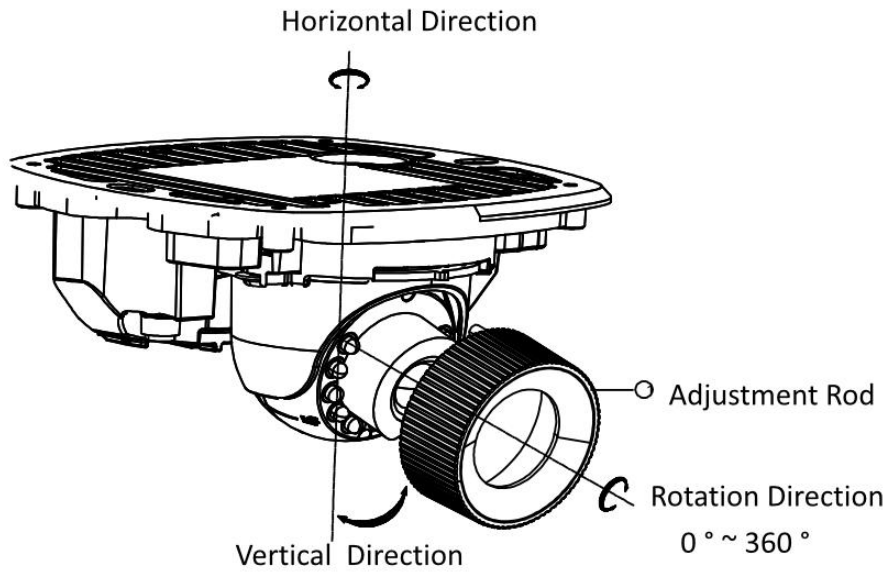

Figure 2-11 Adjusting Angle
Step 6 Loosen the locking screw of the camera's three-axis adjustment, and then attach the attached three-axis adjustment handle, as shown in Figure 2-11. The horizontal direction, vertical direction and rotation direction can be adjusted by the adjusting handle, and the camera picture can be adjusted to the required scene.